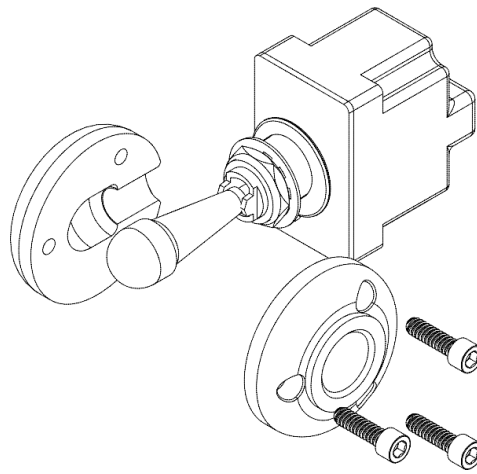

Figure 3
11. Install the new landing gear knob to the switch. (Ref. Figures 3 & 4)